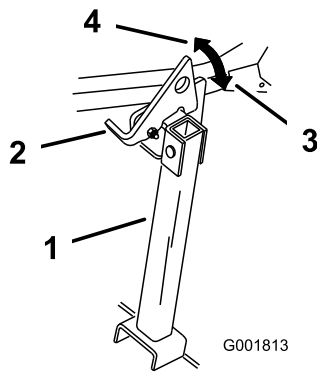

Figure 26
2. Raise the latch to the unlocked position (Figure 26).